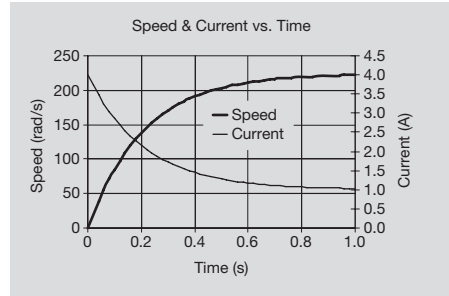

**Figure A.8 Motor and Load Accelerated from 0 Initial Shaft Speed**
peak value (and not a step change as in Figure A.8).
**EXAMPLE 1** (Figure A.8):  $V_b = 8 \text{ V}$ ,  $R_a = 2 \Omega$ ,  $K_V = 1.2 \times 10^{-4} \text{ Nmsec}$ ,  $k = 267.38 \times 10^{-4} \text{ Nm/A}$  (or  $267.38 \times 10^{-4} \text{ Vsec}$ ),  $J = 10^{-4} \text{ Nmsec}^2$ ,  $\omega_0 = 0 \text{ rad/s}$  and  $\tau = 0.2094 \text{ sec}$ .